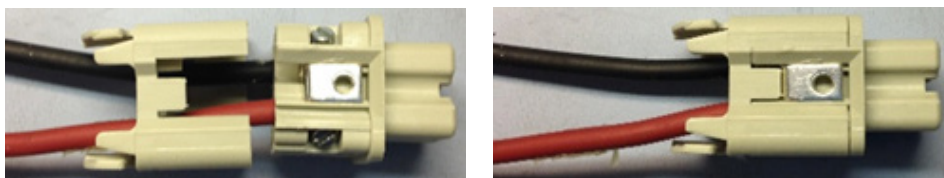

Figure 16 Insert Wire Harness into Insert Clip
9. Insert the wire harness into the insert clip until the tabs click into place (Figure 16).